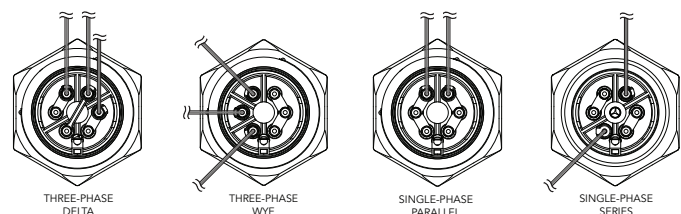

Figure 17. Heating element jumper configurations. Replacement elements may be a different jumper configuration.
2. Close isolation valves. Drain the fluid from the heating tank (E). See SECTION 4.2.4.
3. Remove the cap (A) from the heating element service entrance enclosure.
4. Note your unit's jumper configuration. See Figure 17. **NOTICE!** Elements are configured from the factory. Retain original jumper placement during element reassembly. Altering element configuration or jumper placement may cause heating system failure.
6. Unscrew cable gland (F) from conduit connector entrance (H). Remove electrical cable and wires from the heating element. See Figure 17.
7. Loosen V-clamp nut to remove V-clamp (C). Slide the heating element out of tank as shown.
8. Replace the heating element (G) or perform the necessary cleaning procedure. Ensure the O-ring (D) is intact and in place before securing V-Clamp.